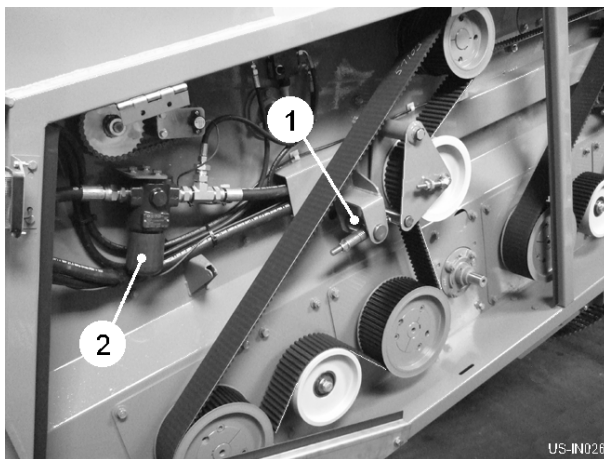
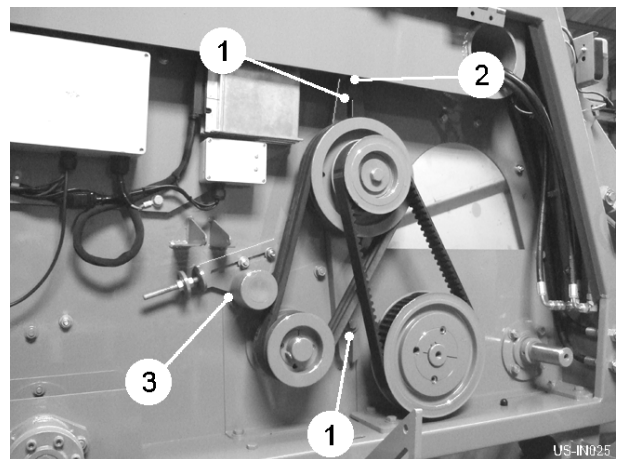

Fig 15
Fig 16
The toothed drive belts have adjusters (item 1, fig 15) that are visible when the appropriate guard is opened. As a guide, correct belt tension is achieved when, at a distance half way between the furthest spaced pulleys, the belt can be twisted no more than 45° longitudinally. To set the boulder box belt tension (if fitted), firstly set the toothed belt tension by loosening the fixing bolts (item 1, fig 16) and adjusting the tensioner bolt (item 2, fig 16). Finally, adjust the 'V' belt tensioner (item 3, fig 16). Set the 'V' belts tight enough to give a positive drive without undue stretching.
A pressure filter (item 2, fig 15) is mounted in the supply line from the tractor. The element should be replaced after the first 50 hours of running time and then annually or every 500 hours thereafter.